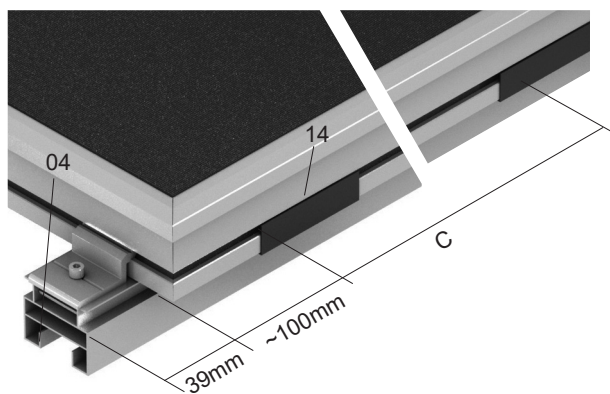

Figure 7-7: Positioning the Mounting Hooks
7. Place the compression fitting (11) on the connector of the first solar collector.
8. Hook two further mounting hooks into the lower mounting rail, see Figure 7-7, Positioning the Mounting Hooks.